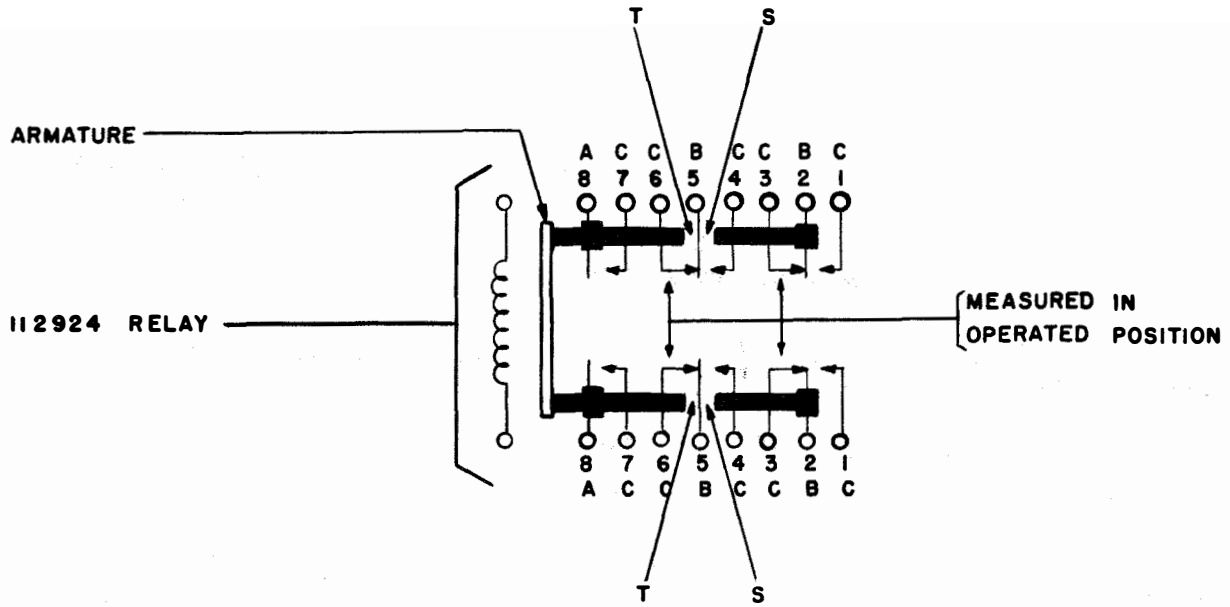

FIGURE 6
1. All springs should be tensioned toward the armature. The springs indicated (refer to Figure 6) should be measured with the armature operated.
7. Springs designated A (Figure 6) need have no definite tension but should be tensioned toward the armature and should hold the armature against the adjusting nut with a pressure of at least 18 grams. Measure by applying the end of a 114198 gram scale to the back of the armature just below the adjusting nut, in line with the tops of the contact springs.
NOTE: The loads of the two banks of contacts on each relay should be distributed so that the difference in load between the two is not greater than 2-1/2 times. To measure apply the gram scale to each A spring nearest the armature at the stud, and in a direction to move the spring away from the armature (Figure 6).
8. Each spring designated B should have a tension of at least 18 grams against its associated C spring (Figure 6).
1. With the armature unoperated, the clearance at points S shown (Figure 6) should be from .002" to .004".
2. With the armature unoperated, the clearance at points T should be at least .006" (Figure 6).
1. There should be at least .005" clearance between each pair of contacts normally open with the relay unoperated (Figure 6).
4. With the relay energized without a gauge between the armature and core, all normally closed contacts should have a gap of at least .005" (Figure 6).